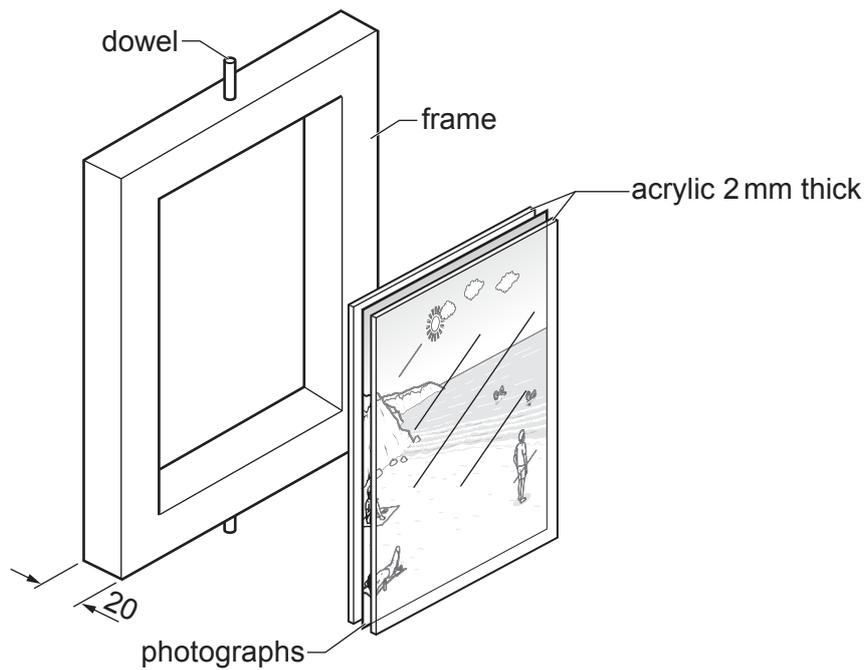

Fig. 11.6
- (g) Fig. 11.6 shows details of the photographs 'sandwiched' between two sheets of 2 mm thick acrylic. The photographs and acrylic sheets will be fitted inside the frame.